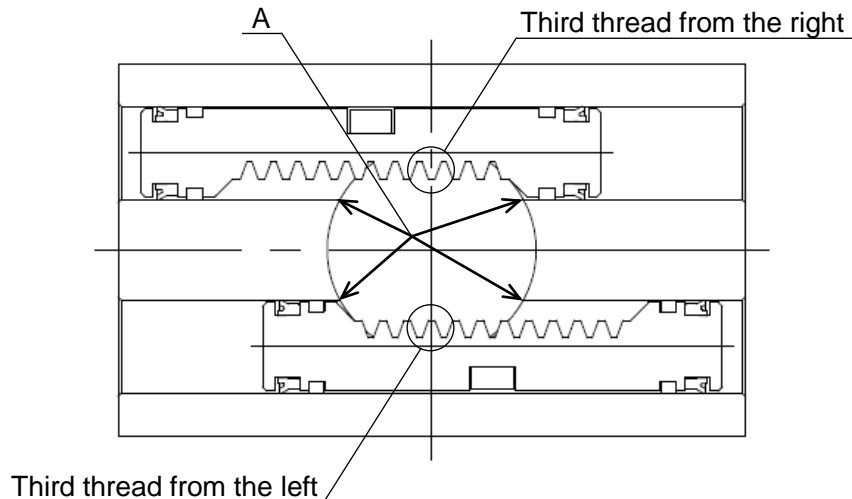
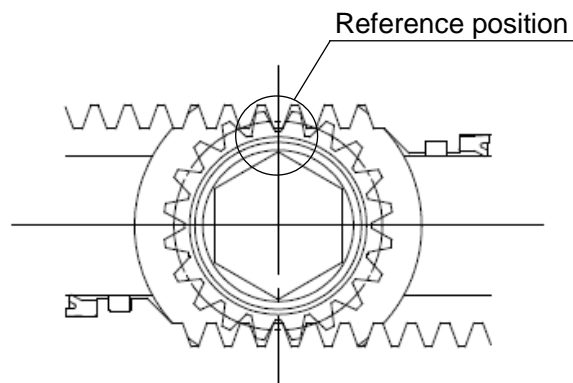

Fig. 6
Fig. 7
Please refer to Figure 6 for the position and orientation of the piston assembly.
Be careful not to damage piston seal in Section A, Figure 6, while inserting.
- e. Insert pinion gear (27) into body (21).
Confirm piston position with Figure 6 and insert pinion gear (27) as shown in Figure 7.